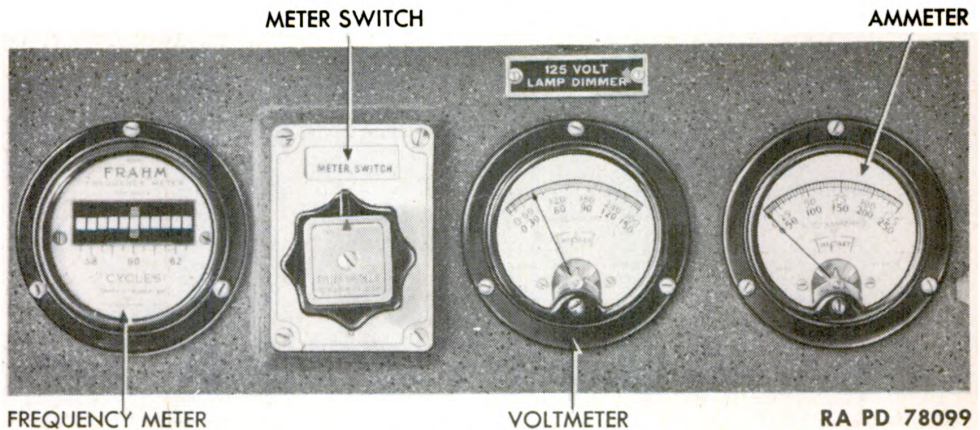
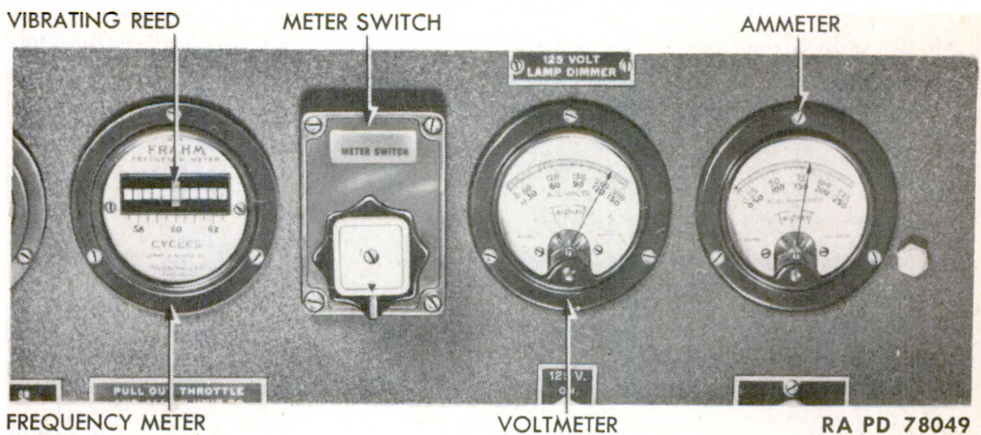

Figure 8 — Instruments Showing Correct Exciter Indication
Figure 9 — Instruments Indicating Correct Reading for a Circuit Phase
c. **Load Meter.** To check the voltage of the exciter, the amperage of the current being delivered to each of the three phases of the connected load, and the voltage between phases, the meter switch is provided. The four positions of the control knob, "EXC," "A," "B," and "C," are labeled on the face plate of the switch. When the indicating mark on the control knob is turned to "EXC," the exciter voltage is reflected on the voltmeter (fig. 8). As the switch turns to the "A," "B," and "C" phases of the circuit, the amperage and voltage show on the ammeter and voltmeter (fig. 9). The average of the three readings on the ammeter should not exceed 162 amperes for continuous operation, or 202 amperes over a period of operation not to exceed two hours. The difference in ammeter readings should not exceed 10 percent of the average. If the load is largely of the resistance type, such as lighting or heating units, so that the power factor is higher than 80 percent, the current must be limited to approximately 129 amperes normal load, and 162 amperes overload, in order not to exceed the rated capacity of the engine. For 250-volt operation, amperage readings should be one-half those given above.
(1) Two 125-volt bulbs are located in rubber sockets at the top of the panel. The light switch is at the right of the center of the panel, and the lamp-dimming rheostat is located between the lights. In field service, the illumination should be kept as low as possible.